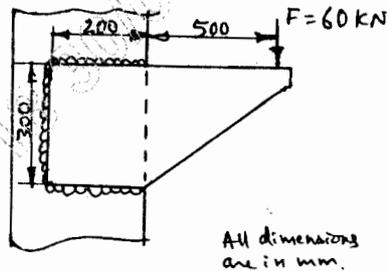

Fig.Q8(c)
- c. Determine the size of the weld required for a flat plate welded to a steel column and loaded as shown in Fig.Q8(c). The permissible shear stress for the weld material is 70 MPa.